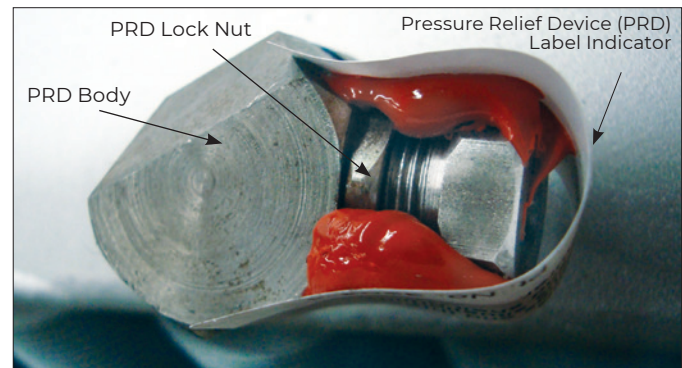

Figure 1
- Pressure relief device for signs of leakage. See Figure 1, page 5 and refer to A.3 Annual, page 4, for further instructions.
9. Venting pressure of the pressure relief device (PRD) is factory set. Do not tamper with lock nut. (See Figure 1, page 5.)